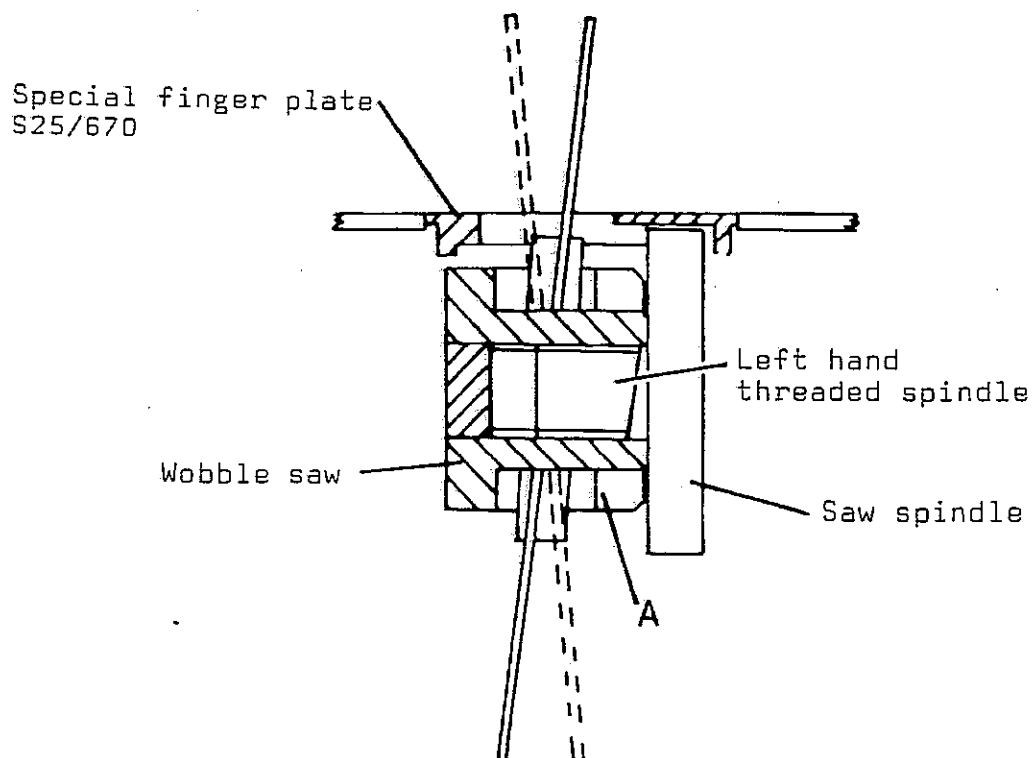

FIG.39
- 3) Screw wobble saw to saw spindle as shown in FIG.39.